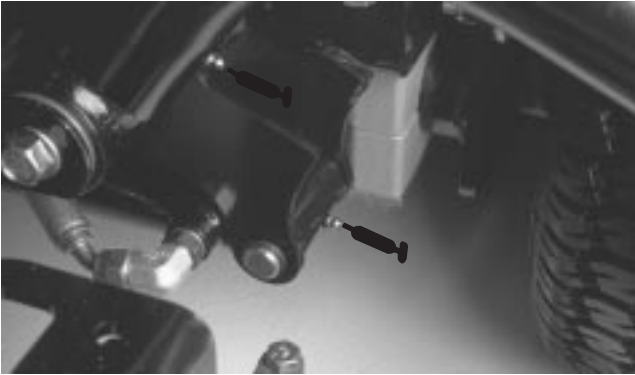

Figure 49
The traction unit bearings and bushings that must be lubricated are: Rear cutting unit pivot (Fig. 44), Front cutting unit pivot (Fig. 45), SideWinder cylinder ends (2) (Model 03201 only) (Fig. 46), Steering pivot (Fig. 47), Rear lift arm pivot and lift cylinder (2) (Fig. 48), Left front lift arm pivot and lift cylinder (2) (Fig. 49), Right front lift arm pivot and lift cylinder (2) (Fig. 50), Neutral adjust mechanism (Fig. 51), Mow/Transport slide (Fig. 52), Belt tension pivot (Fig. 53) Steering cylinder (Fig. 54).